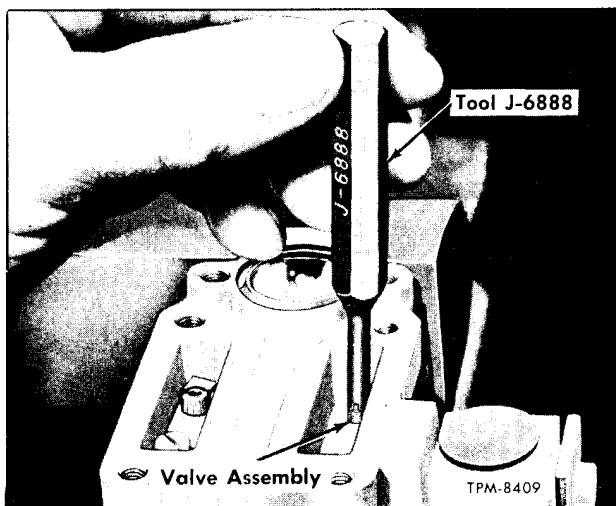
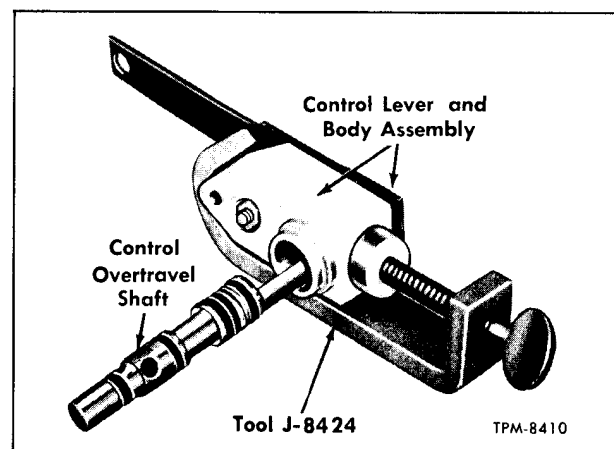

Figure 36—Replacing Valve Core Assemblies
Figure 37—Replacing Overtravel Lever Shaft
2. Remove four cover screws and lock washers (1) from cover and bracket (2). Remove cover and bracket and two cover O-rings (6).
3. Position valve with delay plug at top. Unscrew delay plug (18) from valve body. Drain silicone fluid from cavity. Remove plug O-ring (17). Unscrew piston pin (16) from control shaft.
4. Remove two cover screws and lock washers (1) from cover (3). Remove cover and cover O-ring (4). Remove delay piston (5).
5. Remove valve lever screws and lock washers (8) from valve levers. Remove exhaust valve lever (10) and intake valve lever (12) from valve body.
6. Remove valve stem lock clip (7) from stem of exhaust valve core. Spread locking arms and slide clip from around stem.
7. Remove retaining ring (14) from overtravel control shaft. Pull overtravel assembly and shaft from valve body.
8. Remove intake valve core (13) with tool J-6888 as shown in figure 36.
9. Remove exhaust valve core (19) with tool J-6888 as shown in figure 36.
10. On front valve only, remove two retainers (43) and nylon balls (42) from exhaust valve lever cavity in body. Threaded end of piston pin (16) can be used to lift ball retainers out of body.
11. Remove plug retainer (38) from overtravel control body (35). Retainer must be cut off. Use caution to avoid damage to nylon body. Remove overtravel body plug (30).
12. Place forked end of tool J-8424 around shaft in overtravel control body, then tighten clamp screw. See figure 37. **CAUTION: USE ONLY ENOUGH PRESSURE TO TAKE SPRING TENSION OFF SHAFT.** Remove overtravel control shaft (28) and overtravel control body seal (34) from body. Remove shaft O-rings (26, 27, and 29). Back off
1. Install intake valve core (13) and exhaust valve core (19) in body with tool J-6888 in manner shown in figure 36. Tighten to 2-1/2 to 3 inch-pounds torque.
2. On front valves only, place two nylon balls (42) in passages at bottom of exhaust valve lever cavity in body. Install ball retainers (43).
a. Install overtravel lever (37) and insert overtravel lever screw (39) (early models) in body. Place lever screw nut (36) on screw and tighten to 10-15 inch-pounds torque. Tighten later type lever stud nut of 1/4 inch diameter to 70 to 80 inch-pounds torque.
b. Place overtravel lever large spring (32), and overtravel lever small spring (33) inside piston (31). Insert piston in body.
c. Place four new O-rings (26, 27, 29) on overtravel control shaft (28) as shown. Lubricate shaft and O-rings with multi-purpose grease.
d. Position fork of tool (J-8424) so that shaft can be inserted in body. Carefully apply pressure with clamp screw (fig. 37). Compress springs only enough to allow shaft to be inserted. Install overtravel control shaft (28). Rotate shaft so that flat is next to piston.
e. Insert overtravel body plug (30) in bore of body. Force new plug retainer (38) in position over nylon pivot and end plug.
f. Place new overtravel control body seal (34) on shoulder of body. Slide overtravel assembly into valve body. Insert carefully to avoid O-ring